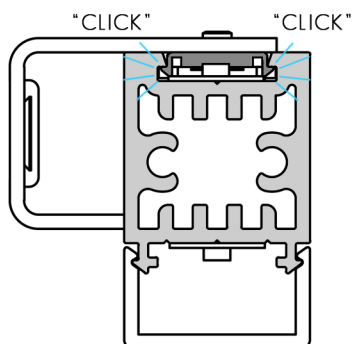

FIG. 2 - MAKE ELECTRICAL CONNECTION
1. MAKE ELECTRICAL CONNECTION: CONNECT LED STRIP TAILS TO LED DRIVER USING CRIMP CONNECTORS, THEN SEAL WITH HEAT SHRINK (OR SEE FIG. 2 IF SUPPLIED WITH MALE/FEMALE CONNECTORS).